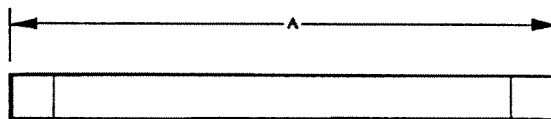

Fig. 3-2 Measuring the upper wear ring
The upper wear ring should be checked for wear and damage by measuring the outer diameter (A) at several places (Fig. 3-2).